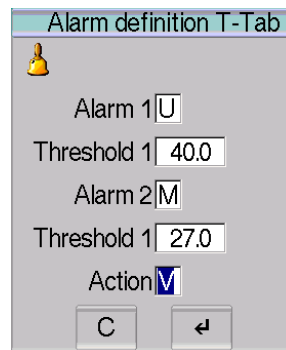
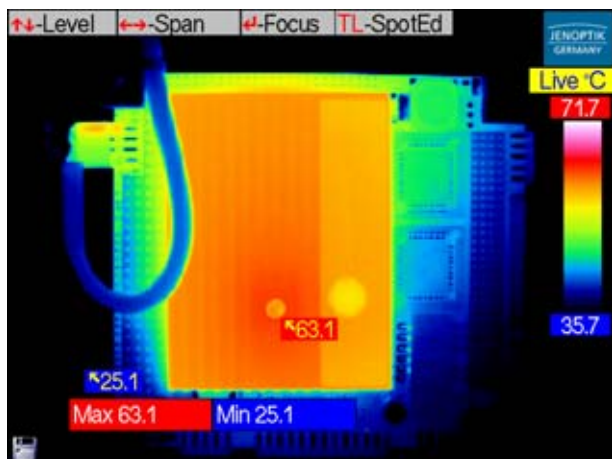
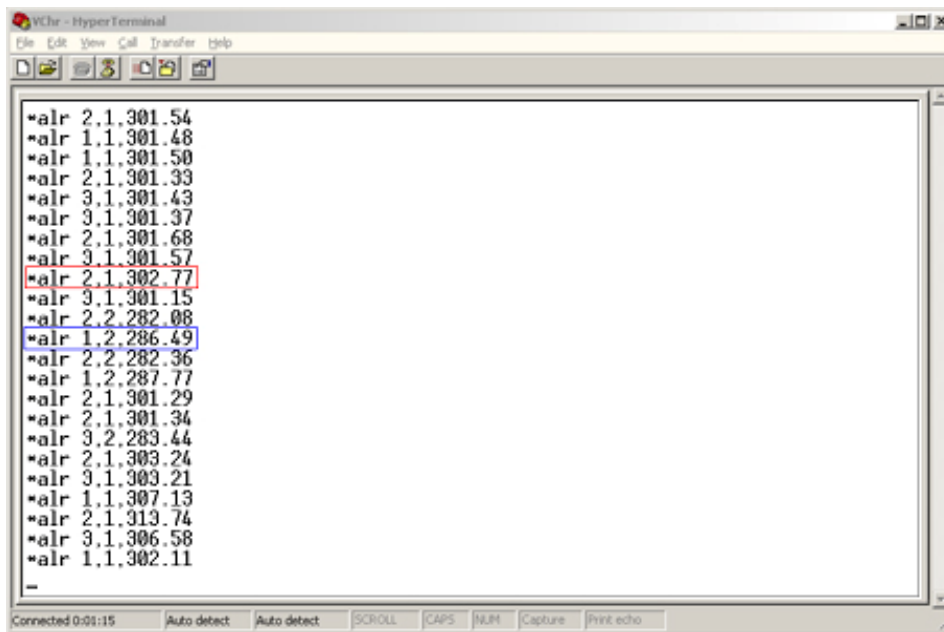

Fig. 118 Dialogue "Alarm definition"
Fig. 119 Displayed visual alarm when exceeding and falling short (U/D) of the thresholds in the entire thermal image
Fig. 123 HyperTerminal with data of the VarioCAM® high resolution
- **"V"** **Visual display** – displays the respective status (see Fig. 118 and Fig. 119)
Temperature alarm data is output in the following way: **"alr" + "ID, resp. number of the measurement area (1 to 5)" + "alarm number (1/2)" + "current temperature in Kelvin"**. Two examples are highlighted in Fig. 123 referring to the alarm definitions in Fig. 118.